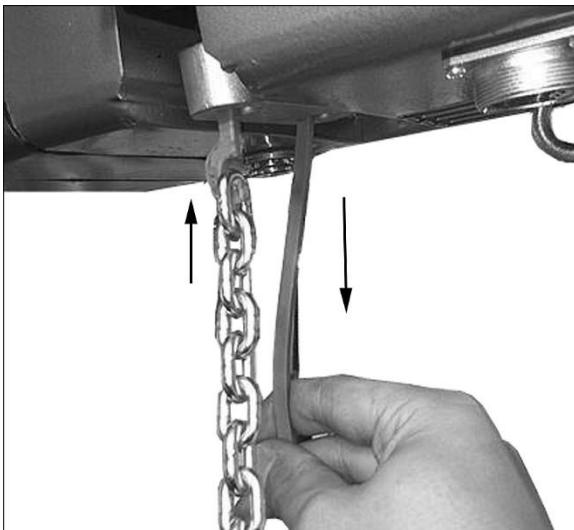

Figure 13-3
- Connect hook of chain puller to the link on new chain (Figure 13-3), and pull chain through until it engages the sprocket. **Do not let the chain twist or bind as it is being pulled through the hoist.**
- Connect hook of chain puller to the link on new chain (Figure 13-3) and move chain through until sprockets are engaged.
The link on the load side end must be a vertical link, as shown in Figure 13-3. If it is a horizontal link, the chain will have a twist in it.